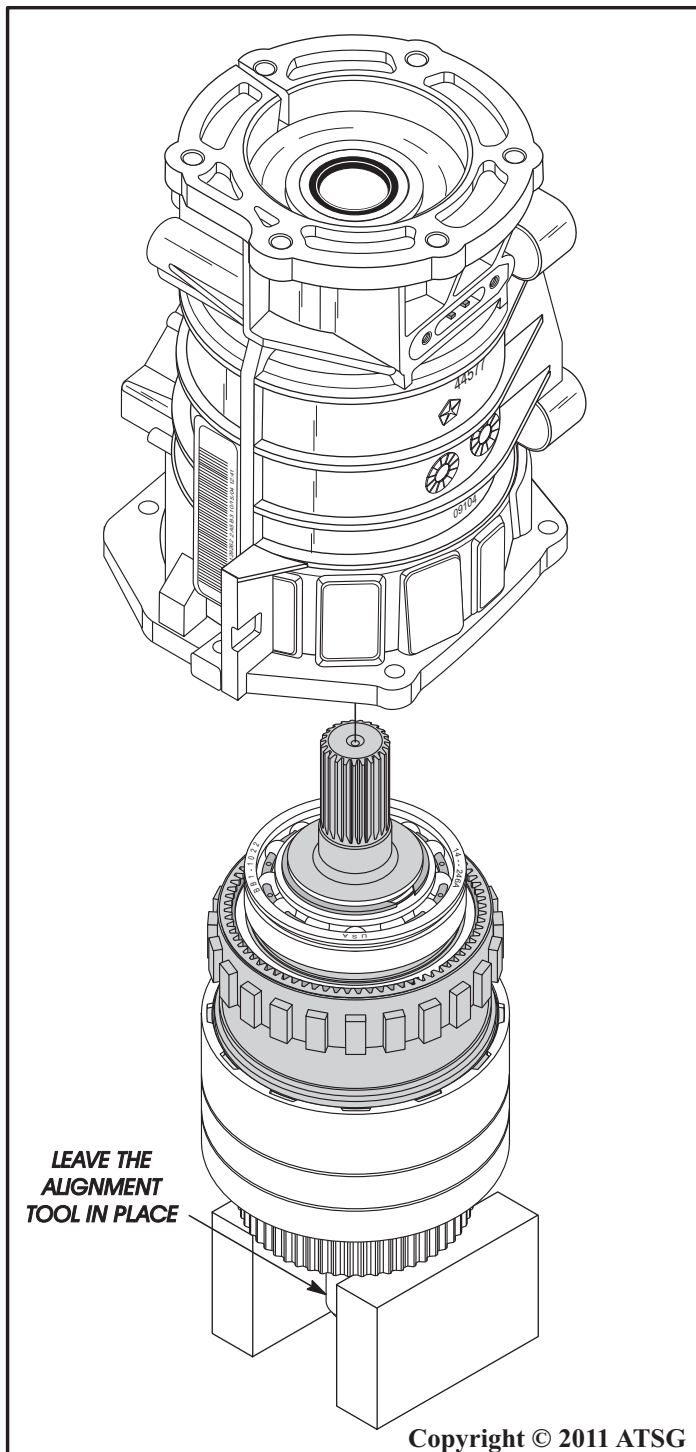

Figure 193
44. Install the completed overdrive housing onto the geartrain, as shown in Figure 193, and start on the rear ball bearing.